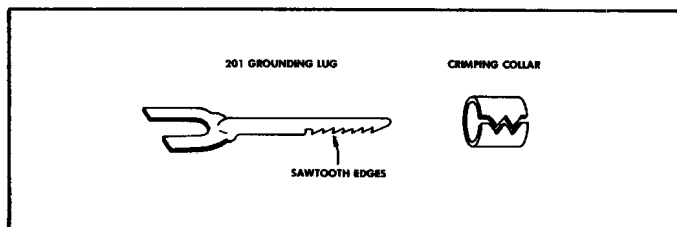

FIGURE 23.
6.05 Straighten the service drop at the prepared end. Slip the crimping collar (see Figure 23) over the wires and inner jacket and up onto the outer jacket.
6.06 With pliers or fingers, place the grounding lug (see Figure 23) against the inner jacket and push it under the metallic shield until the tapered end is inserted up to the step at the end of the sawtoothed edges. If the lug binds, tap it in lightly.